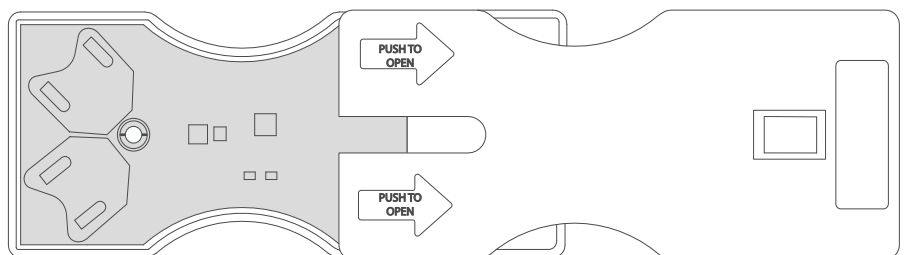

Figure 2: Open the 1139
2. Gently push down then forward until the cover slides off completely. See Figure 2.